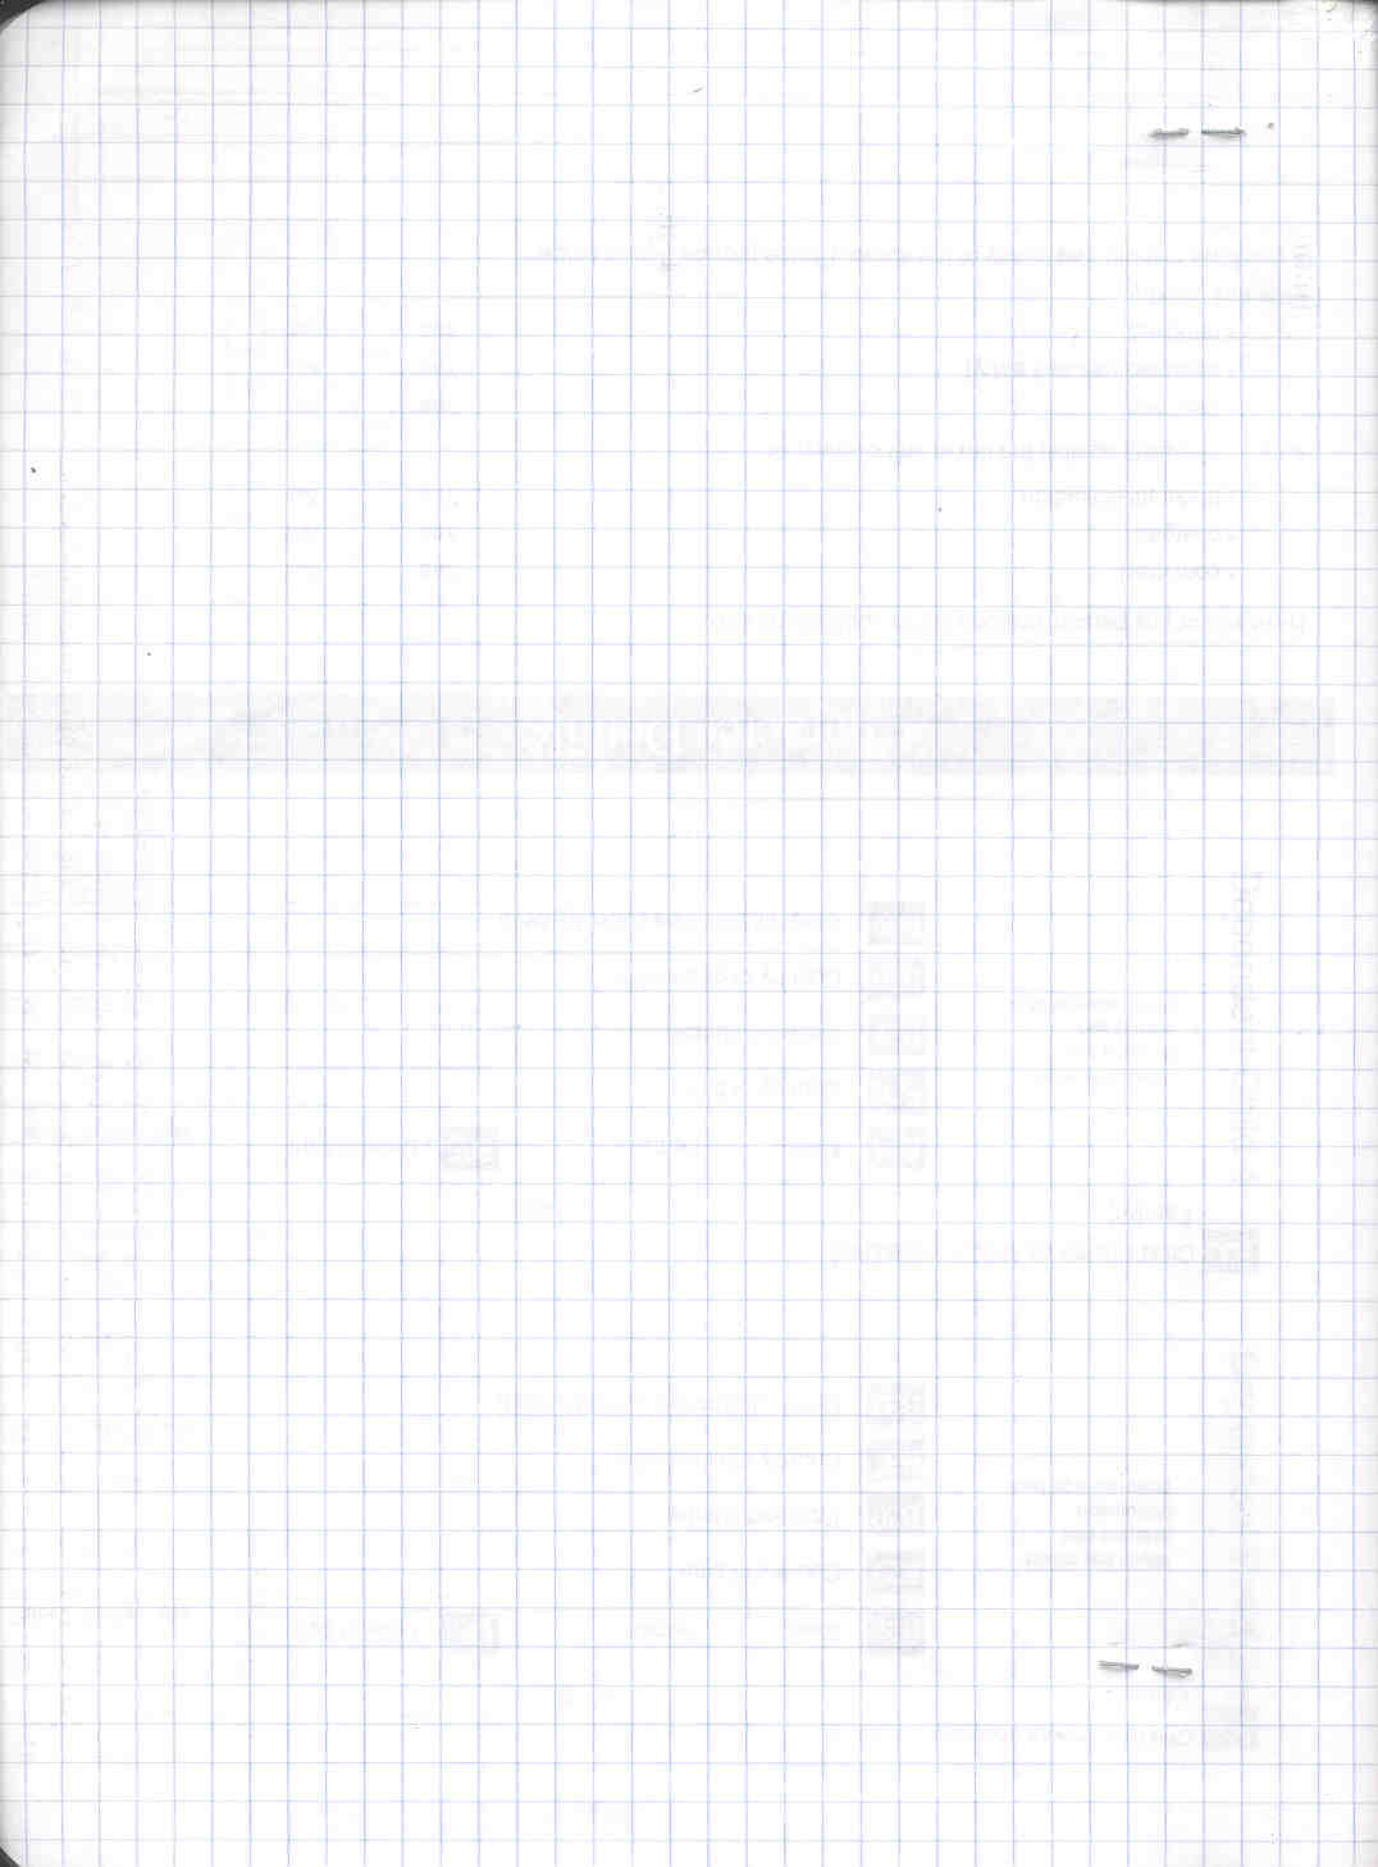

Fig.2
- (5) The light blue images in Fig.2 show the ideal positions gave by ZEMAX.
- (6) This error can be fixed by adjusting the mirror right after the Xgrid easily.
- (7) Remove BoxIV, adjust m1 so that the laser beam is .5 degree off the original direction (toward up, down, left or right)
- (8) Install BoxIV, the result is that the beam is .5 degree from (4) in the same direction as (7)